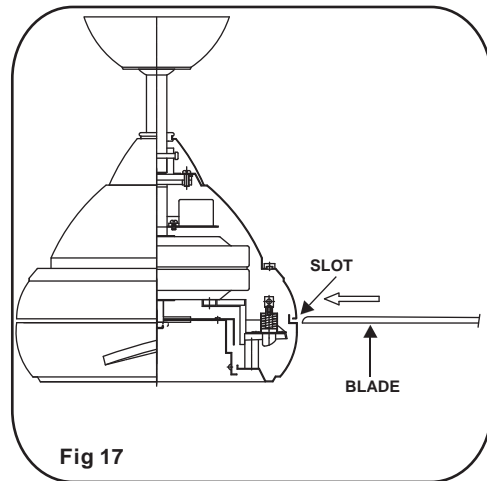

Fig 17
Step 1. Insert the blades into the motor housing blade slots, push blade until it stops. You should be able to hear the inside safety pin drops into the blade hole to secure the blade in place. (Fig. 17)